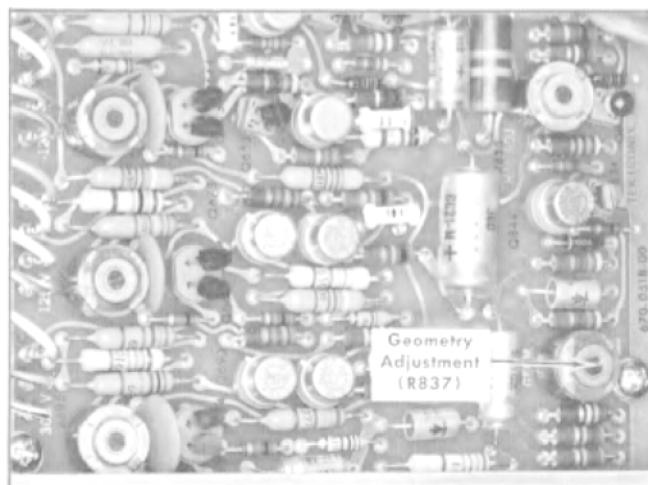

Fig. 6-27. Location of Geometry Adjustment (Regulator Board).
- k. Adjust—R837, Geometry adjustment (Fig. 6-27), for minimum bowing of the vertical and horizontal trace if parts e and i of this step are out of tolerance.